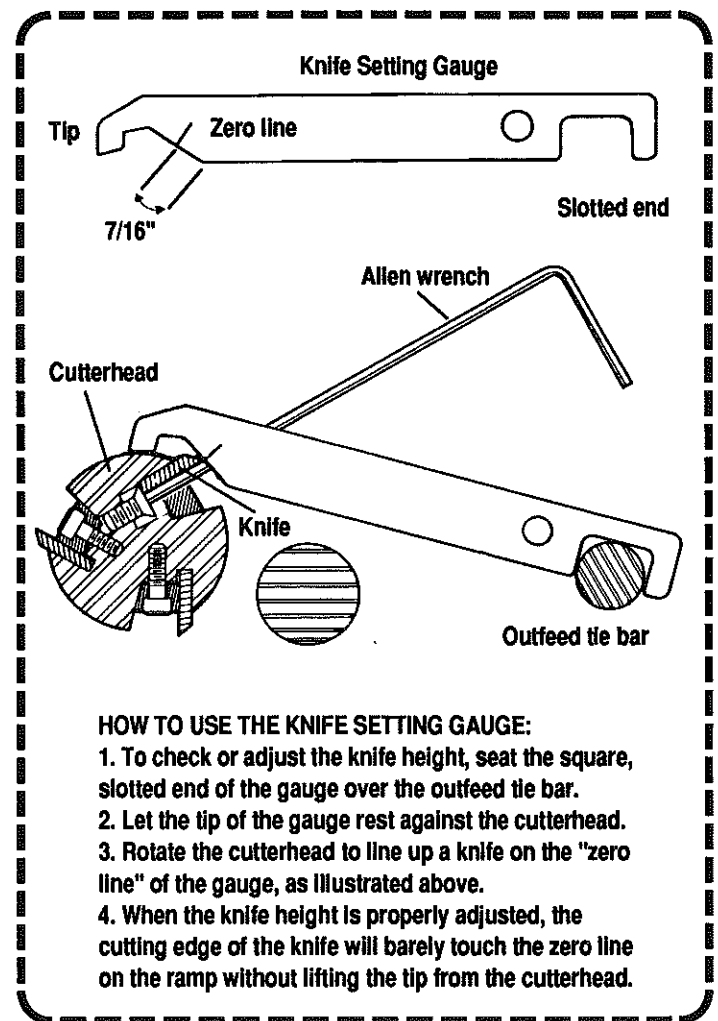

Fig. 64
4. Check the height of one knife - Use the knife setting gauge supplied with the planer to check the height of the knives. Use an awl to scribe a line, on both sides of the gauge, perpendicular to the ramp angle of the gauge, $7/16$ " from the lower corner of the ramp. This is the zero setting line, as shown in Fig. 64. Place the square slotted end of the gauge over the right end of the outfeed tie bar, and let the tip of the gauge rest on the cutterhead. The knife will be positioned between the tip and the angled ramp. Turn the cutterhead to position a knife under the angled ramp of the gauge, as in Fig. 64.
Using the wrench as a lever, slowly rock the cutterhead back and forth so that the knife passes under the ramp of the gauge. If the knife height is correct, the cutting edge will touch the ramp at the mark without lifting the tip of the gauge from the cutterhead. See Figs. 64 and 65.